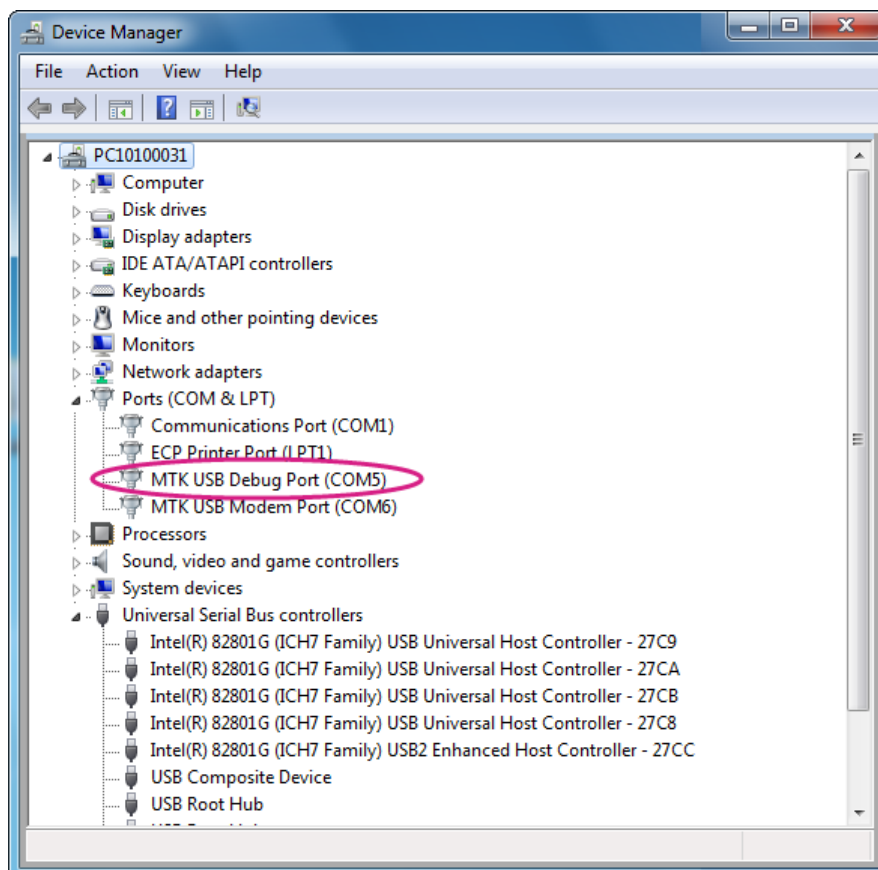

Figure 9 LinkIt ONE board listed in Device Manager
- 4 In Device Manager, navigate to **Ports (COM & LPT)** (see Figure 9).
- 6 A new COM device should appear under **Ports (COM & LPT)** in Device Manager, as shown in Figure 9. Note the **COMx** port number of the **MTK USB Debug Port**, this information is needed to complete configuration of Arduino IDE.
- In **Device Manager**, navigate to **Ports (COM & LPT)** and check that **MediaTek USB Debug Port** is displayed (see Figure 9).